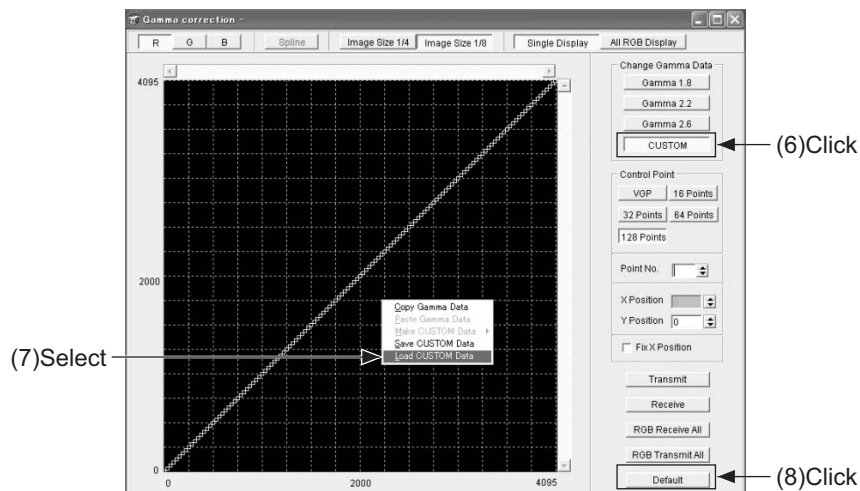

Fig.2
- (4) Open the E_j calculation sheet in the GAMMA adjustment file (GAMMAOFF_1.0_without color compensation). Click [CREATE FILE] near the BK16 cell and save it with an appropriate file name.
- (5) Connect the PSA and click [Gamma] on the PSA screen.
- (6) Click [CUSTOM] on the Gamma correction screen. Refer to Fig.2.
- (7) Right-click on the Gamma curve in the [Gamma Correction] screen to select [Load CUSTOM Data] and then select the file saved in step 3).
- (8) Click [RGB Transmit All] on the [Gamma correction] screen. Refer to Fig.2.